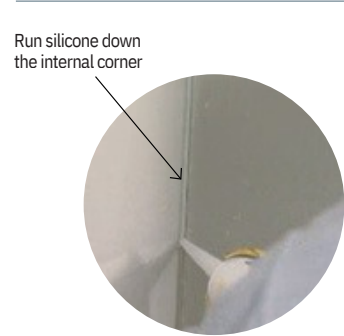

Fig. 5
**Sealing the Internal Corner** Akril suggest in accordance with water proofing standards a neutral cure silicone bead is run from the top of the Akril down the internal corner (*figure 5*) to the bottom of the shower base to seal the panel. This is to prevent any moisture penetrating down behind the lining.